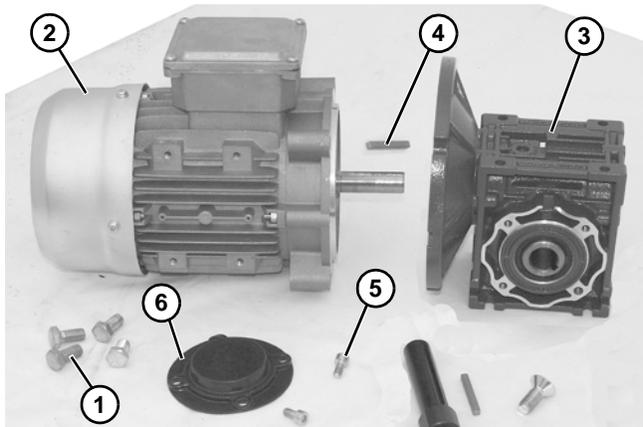

Figure 27
5. Remove four screws (**Figure 27, item 1**). Detach motor (**Figure 27, item 2**) from gear reducer (**Figure 27, item 3**). Retain motor output shaft key (**Figure 27, item 4**).
6. Remove two (2) screws (**Figure 27, item 5**) and detach output shaft cover (**Figure 27, item 6**).
4. Apply anti-seize to motor shaft before assembling to gearbox. With key (Figure 27, item 4) in keyway, slide motor (Figure 27, item 2) and gear reducer (Figure 27, item 3) together. Install screws (Figure 27, item 1) and tighten.
5. Install output shaft cover (Figure 27, item 6) and secure with two (2) screws (Figure 27, item 5).
8. Install gearmotor to mounting bracket and tighten screws (**Figure 27, item 1**) to 103 in-lb (12 N-m).